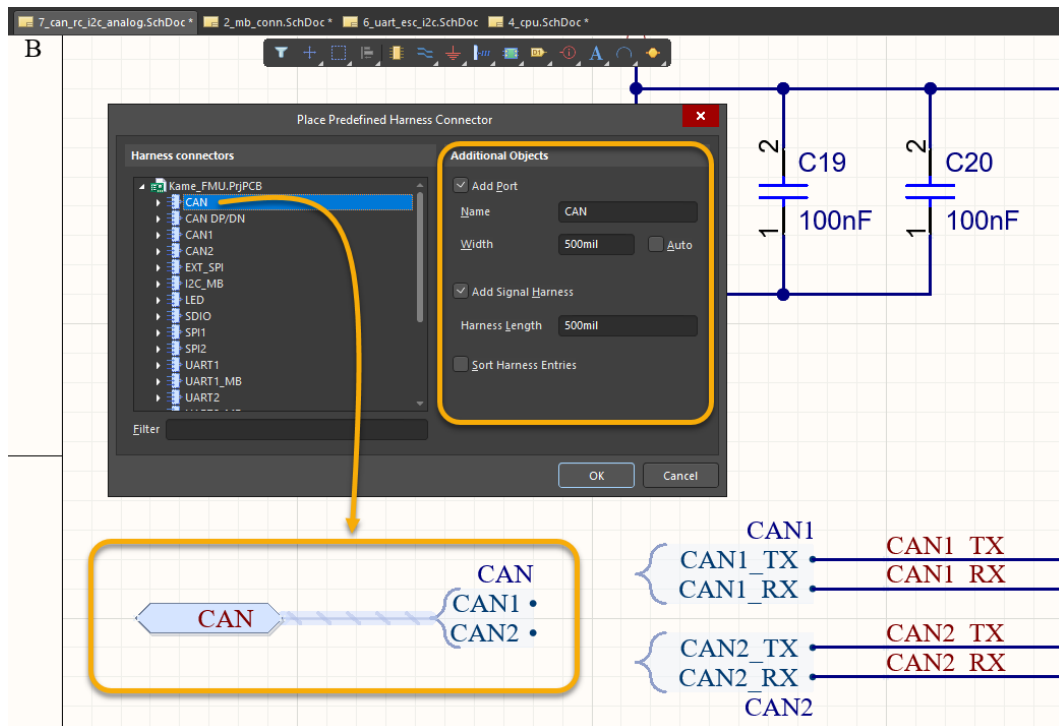

Figure 18. Page 7_can_rc_i2c_analog.SchDoc with three CAN harnesses
48. From the **Place** menu, select **Harness**, then **Predefined Harness Connector**. Then, follow the information for the settings, using Figure 18 as a reference.
- f) Left-click to place it to the left of the **CAN1** and **CAN2** Signal Harnesses, Figure 18.